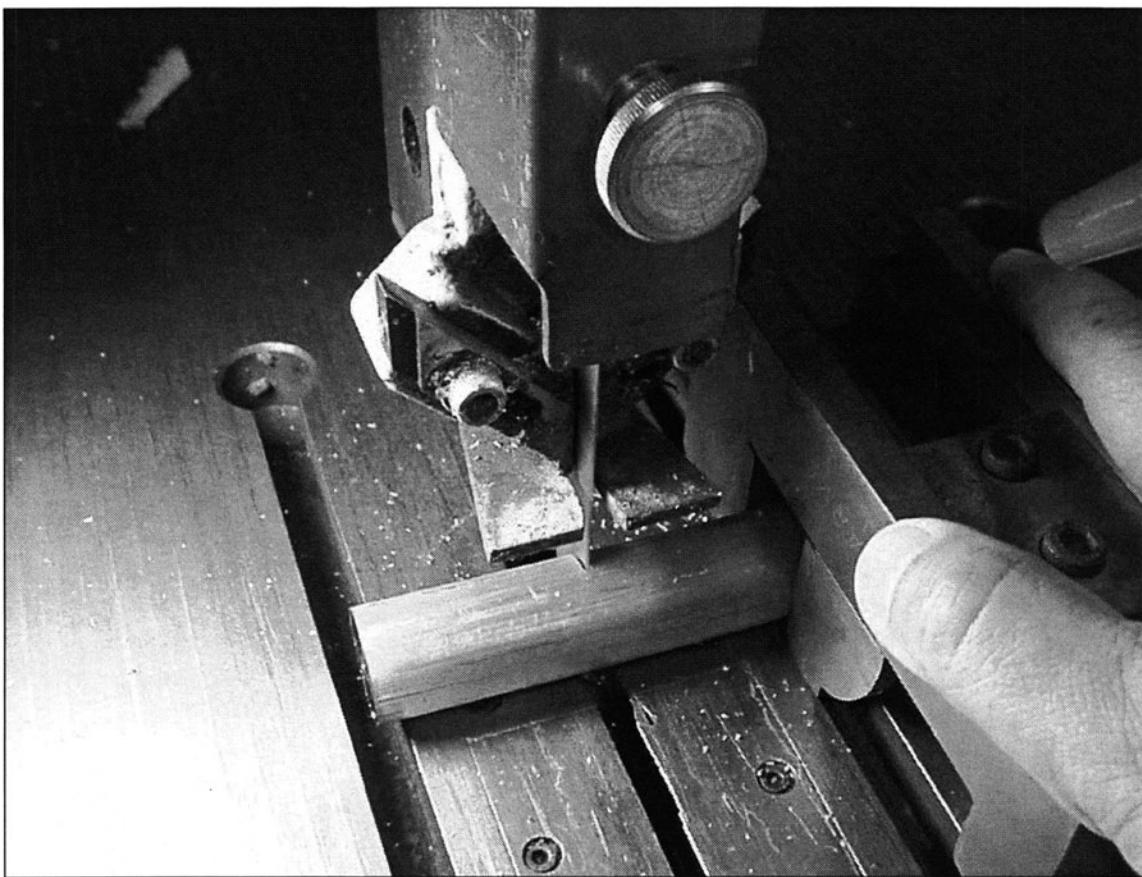

FIGURE 5-11 A small vise is used to hold bar stock for cutting off in a vertical band saw.
33. *Use a drill press vise to hold round stock for cutting in a vertical band saw. (See Fig. 5-11)*